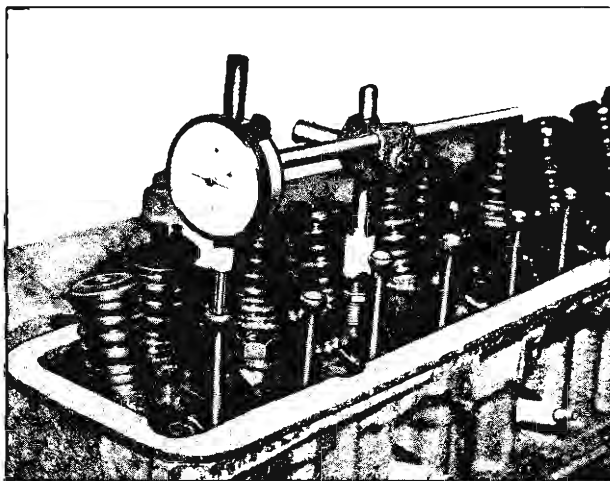

Fig. 3—Checking Camshaft Lobe Lift
4. Attach Tool J-8520 to adapter stud and position indicator Tool J-8520 to push rod as shown in Figure 3.